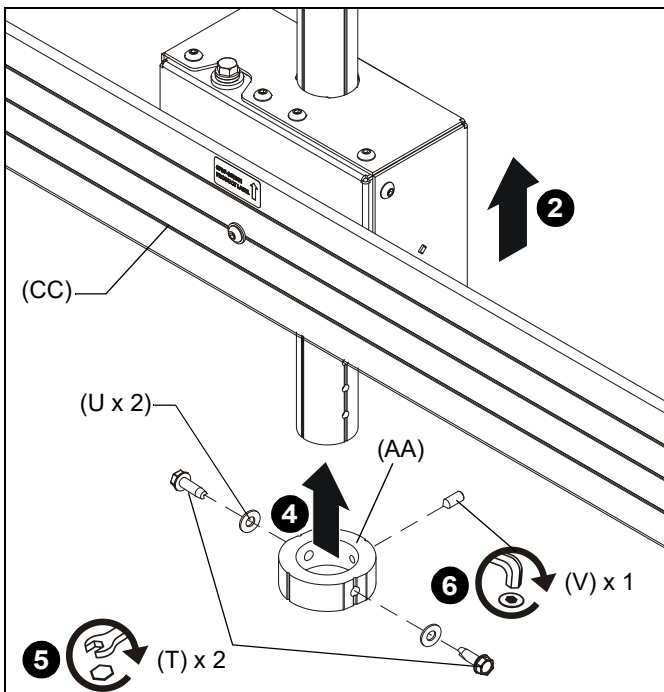
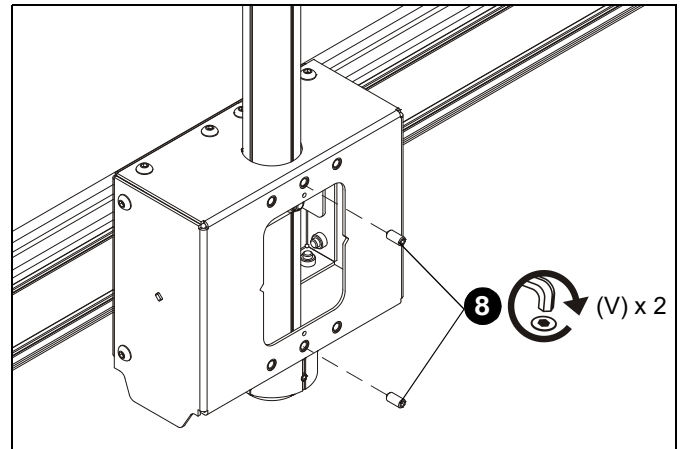

Figure 5
Figure 6
2. Slide ceiling mount (CC) up from below onto installed column (not included). (See Figure 5)
4. Slide bottom stop collar (AA) onto installed column, lining up holes in collar with holes in column.
5. Install two 5/16" x 1" self-tapping screws (T) through two 5/16" flat washers (U), bottom stop collar (AA), and into installed column. (See Figure 5)
6. Install and tighten 5/16" x 3/4" set screw (V) into bottom stop collar (AA). (See Figure 5)
7. Loosen two installed set screws (V), and slide ceiling mount down extension column until it rests on the bottom stop collar (AA).
8. Retighten two 5/16" set screws (V) against column. (See Figure 6)